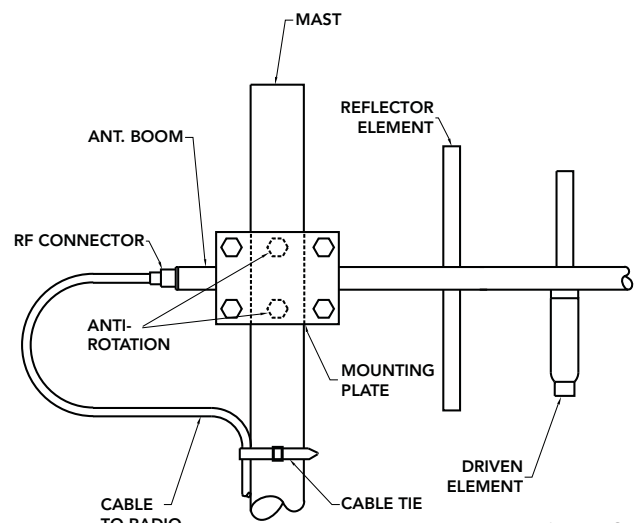

Figure 2
3. The antenna input connector is a Type "N" Female. Connect RF feed cable to antenna output connector. Secure all cables with cable ties. Fig. 2 illustrates a typical method for connecting the RF cable, with a feed cable service loop.